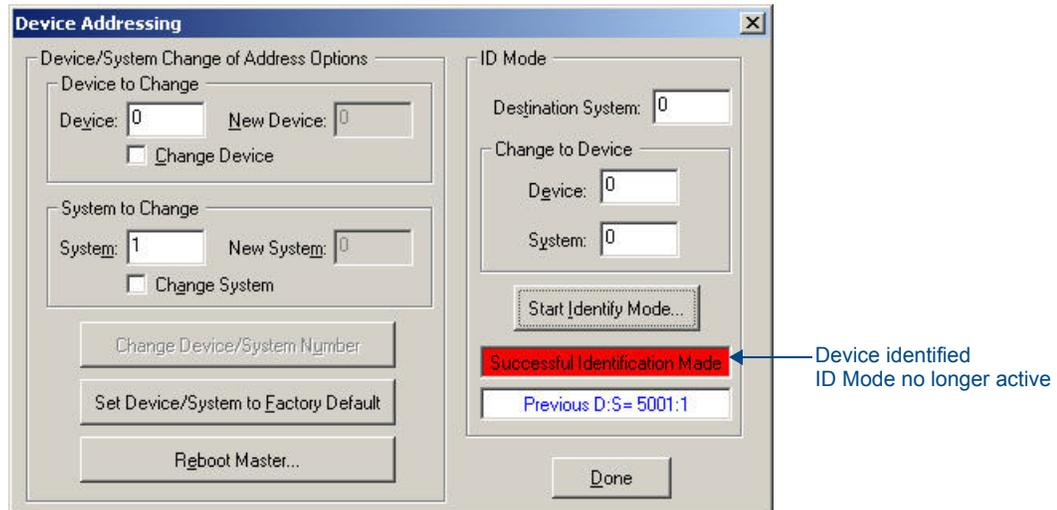

FIG. 20 Device Addressing dialog - Successful Identification Made
5. Press the NI Controller’s **ID** button to assign the new Device / System values entered in step 3 to the Controller. At this point, the "Successful Identification Made " message is displayed (FIG. 20):